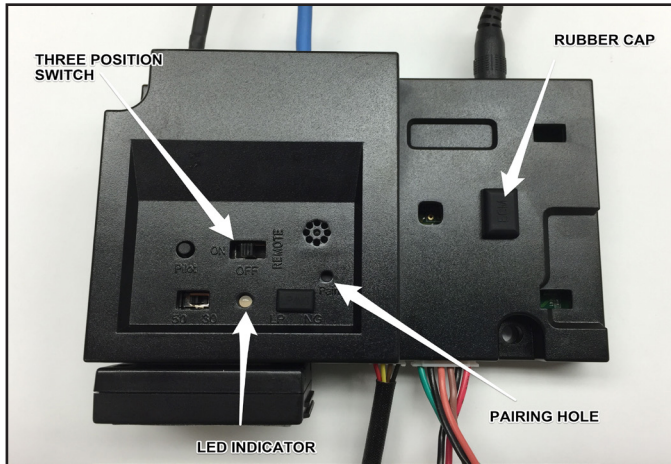

Figure 4.2 IFT-ECM
5. Locate the IntelliFire Touch electronic control module (IFT-ECM) in the control cavity of the appliance and move the three-position switch to the OFF position. See Figure 4.2.
6. Remove protective rubber cap from connector on the top of the IFT-ECM. See Figure 4.2.